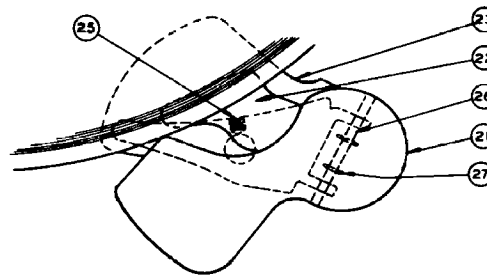
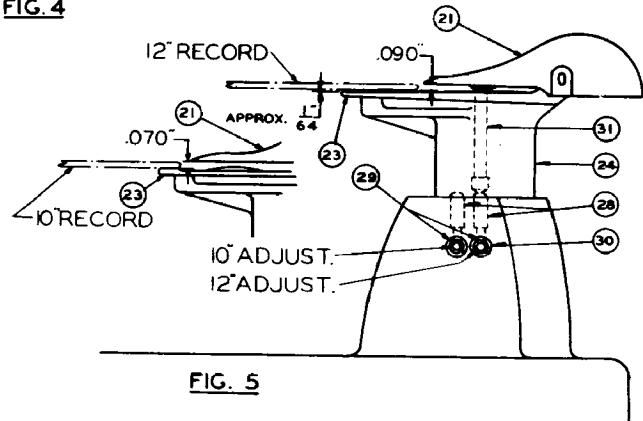

FIG. 4
FIG. 5
To adjust the distance between the selector plate (21) and the shelf plate (23) for 10" records, first select a 10" record that is approximately .070" thick. Then position it on changer and start a change cycle to revolve changer plates. Stop the turntable by hand just as the selector plate (21) is about to touch the record, and shut off the motor (See Fig. 4). Then slowly revolve the turntable by hand, allowing selector plate to contact edge of record so that it just slides over record, touching the surface lightly. Check all three selector plates, and if any adjustment is necessary, it can be done by inserting a #10 Allen wrench in the adjusting set screws (29). Turn set screw slightly clockwise to raise the selector plate and counter-clockwise to lower it. The set screws for adjusting the 10" record setting, and the 12" record setting are shown above in Fig. 5. To adjust for 12" records, select a 12" record that is approximately .090" thick, then follow same procedure as for adjusting 10" records. After correct adjustments have been made, tighten the locking collars (30) securely.
(See Fig. 5)